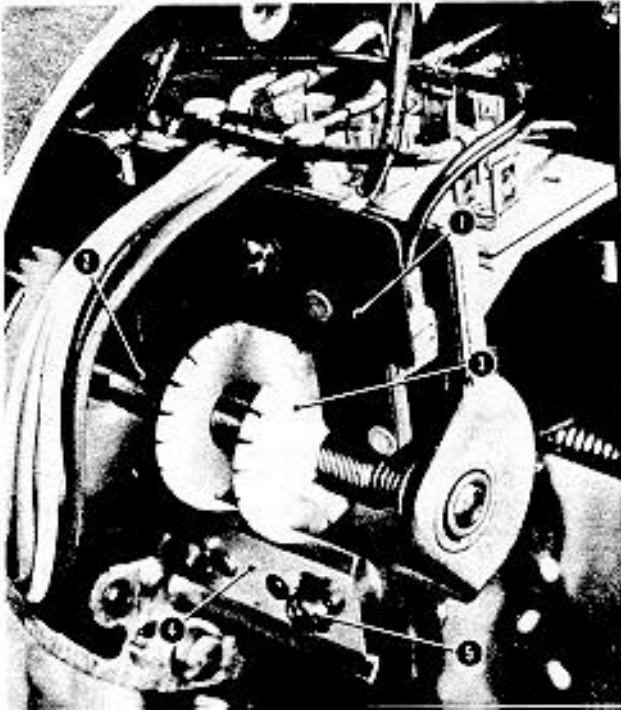

Figure 14.
4. Loosen the screws and lockwashers to permit guide plate to be moved out of engagement with the traveling nuts, refer to Figures 14 and 15.